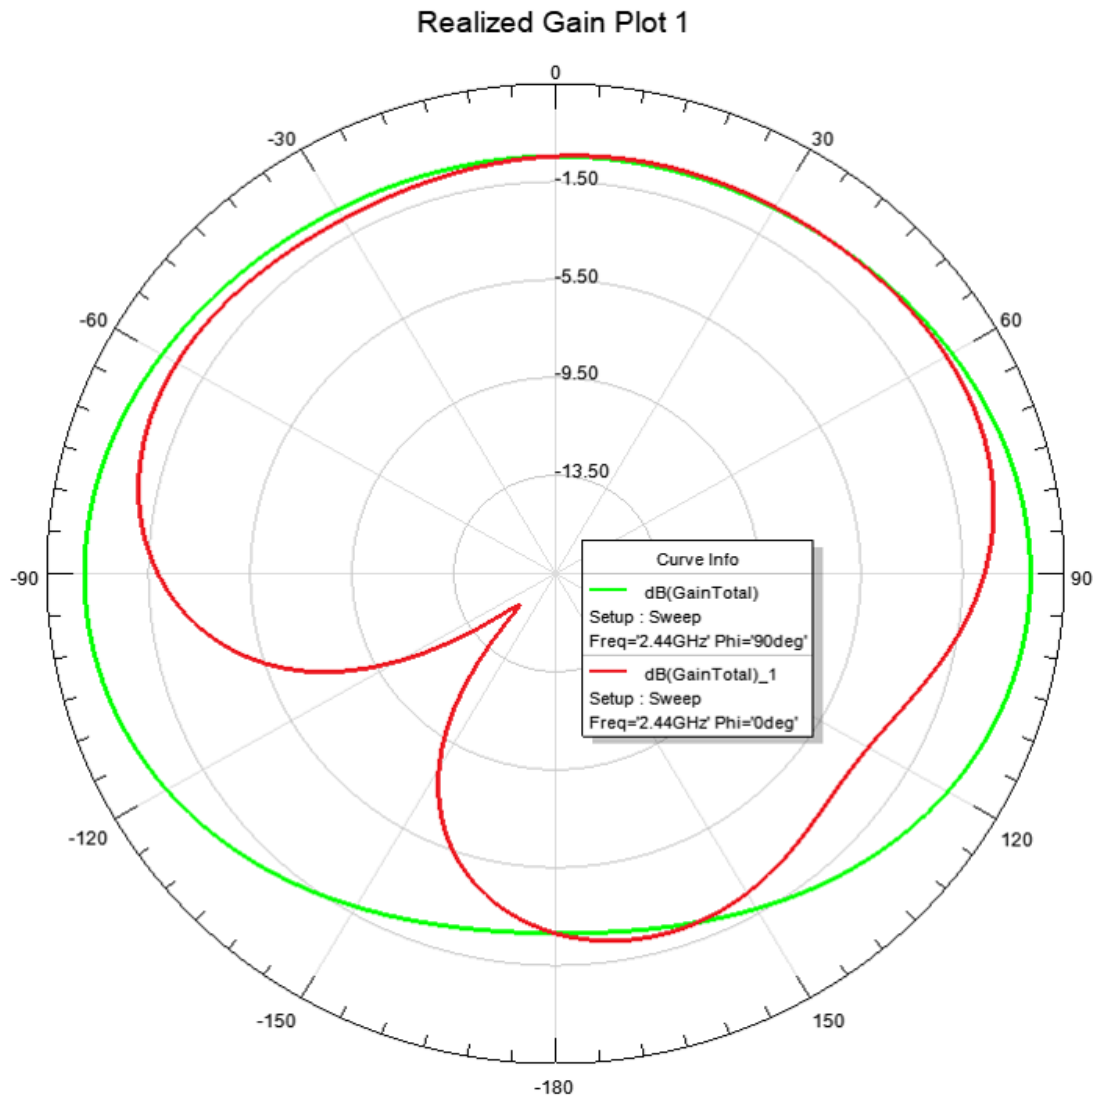

Figure 8. Realized Phi Gain Plot
- Realized Phi Gain Plot (Figure 8)